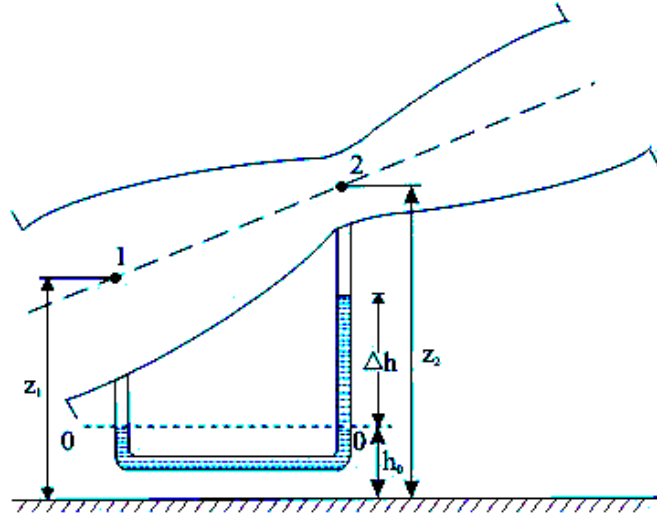

Figure 2: Measurement of Flow by a Venturimeter.
For measuring the flow rate through pipe, let us consider a steady, ideal and one dimensional, where the flow of fluid, the velocity and pressure at any section will be uniform. Let V_1 & p_1 are the velocity and pressure at inlet section (1), while those at throat V_2 & p_2 at section (2) as shown in Fig. 2. Applying Bernoulli's equation between sec.1&2, we get
The pressure difference between Sec.1 & 2 is measured by a manometer as shown in Fig 2, we can write